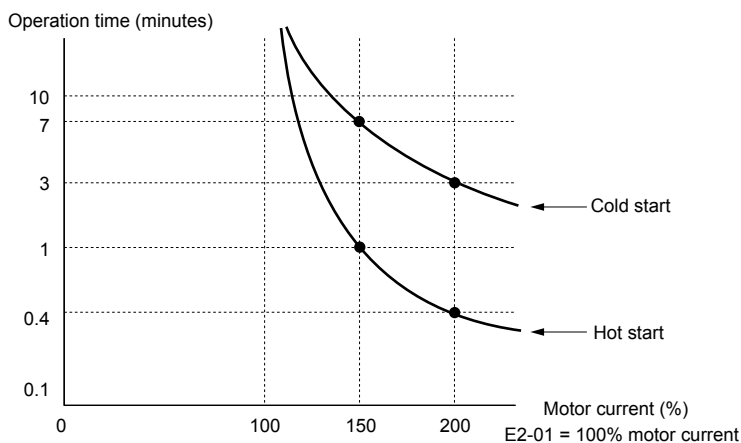

Figure 1.86 Motor Protection Operation Time
**Figure 1.86** illustrates an example of the electrothermal protection operation time using a general-purpose motor operating at the value of E1-06, Motor Base Speed, with L1-02 set to one minute.